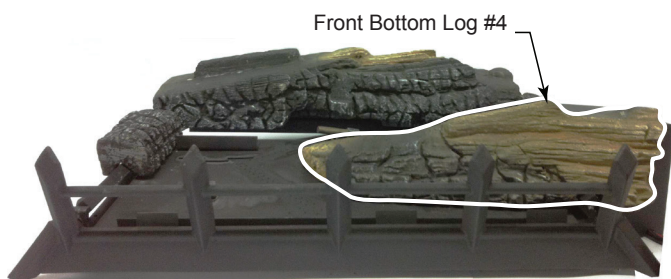

Figure 53
4. Place front bottom right log (#4) on right pin located on burner and right grate bar. Figure 53.